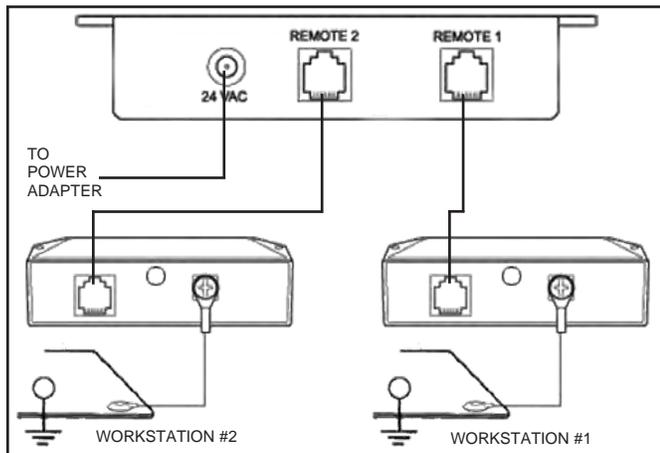

Figure 4. Wiring connection instructions for the 41221 monitor control unit.
Figure 4 shows the monitor control unit as it is viewed from the rear, with the work surface wiring in place.
1. Use the rear phone jack connections and connect the Satellite Remote Units to the base unit with the phone cables. See Figure 4 for wiring connection instructions.
4. Confirm that worksurface surface resistance is  $1 \times 10^7$  ohms or less. Connect the ring terminal end of the worksurface cord included with the unit to the screw on the back of the satellite. Snap the other end to the worksurface grounding point as shown in Figures 4 and 5.